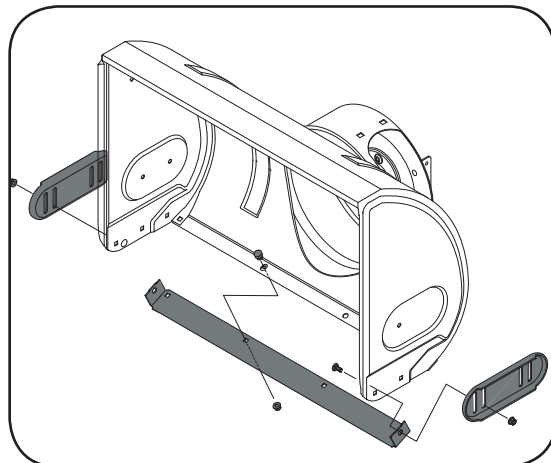

Figure 22
2. Reassemble new skid shoes with the carriage bolts and hex flange nuts. Refer to Figure 22.